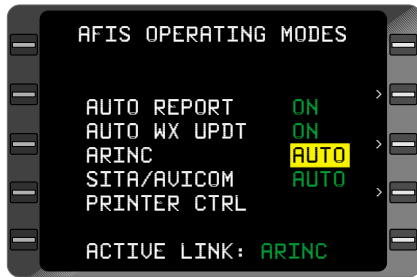

Figure 7-120
4. Line Select Key - DEPRESS to position cursor over **AUTO** option of desired ground network field. (Figure 7-120)